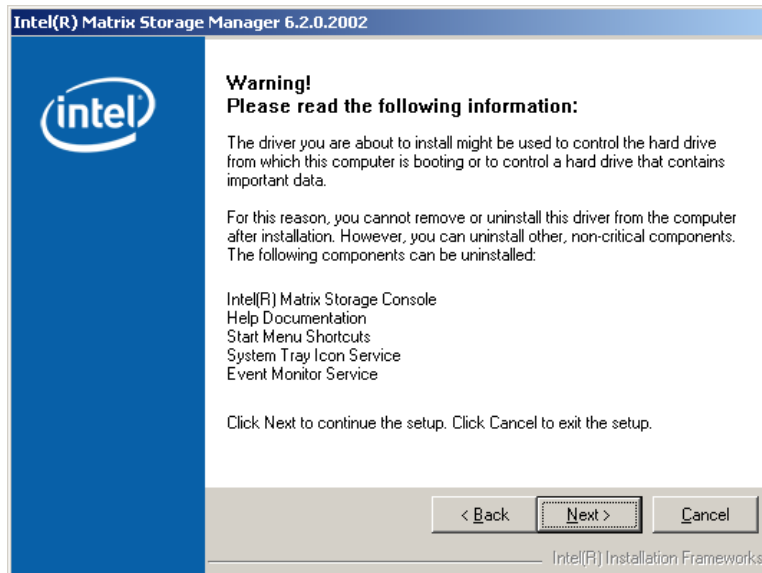

Figure 7-57: Matrix Storage Manager Warning Screen
Step 8: Click **NEXT** and a warning appears (**Figure 7-57**). Read the warning carefully